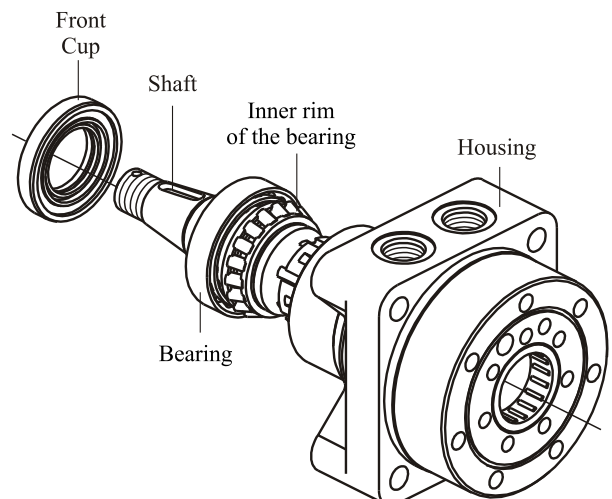

Fig.4
10. Fix Housing in a hydraulic press and push output shaft out of housing (see Fig.4). The shaft will come out with front cup, support ring A38, front bearing of the bearing upit and inner rim of the back bearing. The outer rim of the back bearing remains in the housing.